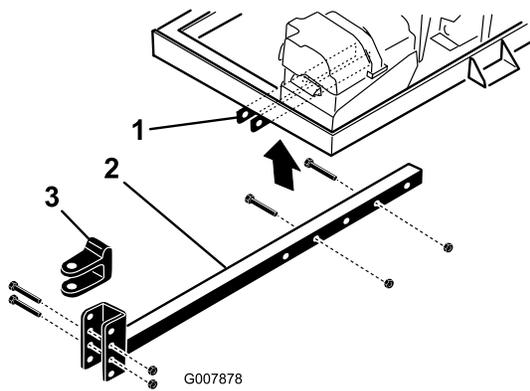

Figure 7
- Insert the hitch tube into the frame brackets (Figure 7). Secure the tube to the frame with 2 bolts (3/8 x 3 inches) and flange nuts (3/8 inch).
- Remove the bolts and nuts securing the hitch tube to frame brackets (Figure 7).
- Remove the bolts and locknuts securing hitch clevis (Figure 7) to hitch tube.